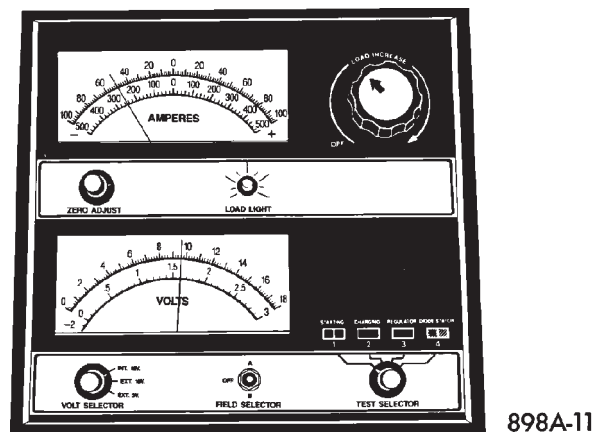

Fig. 7 Load 50% Cold Crank Rating
(4) Allow the battery to stabilize for two minutes, and then verify open circuit voltage.
(5) Rotate the load control knob on the tester to maintain 50% (260) of the battery cold crank rating for a minimum 15 seconds (Fig. 7).